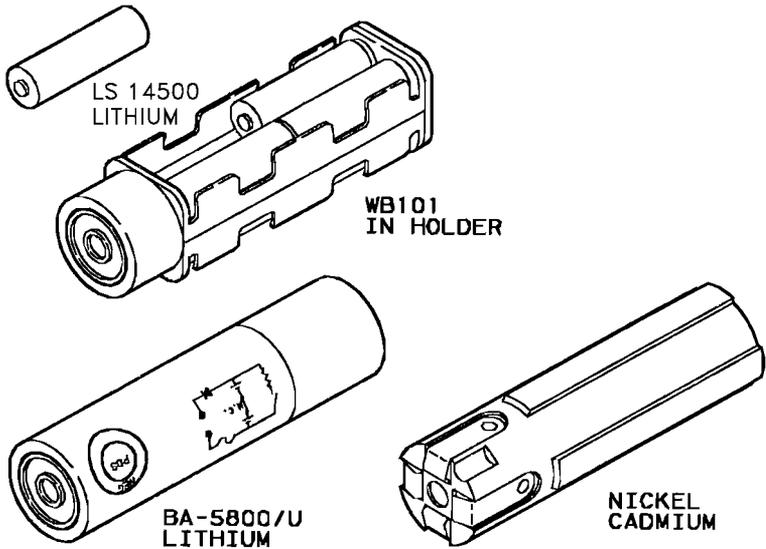

Figure 8-2 PLGR Power Batteries.
- d. Gently insert the battery (contact ends first, refer to Figure 8-2) into the compartment. Screw the power battery cover on snugly.